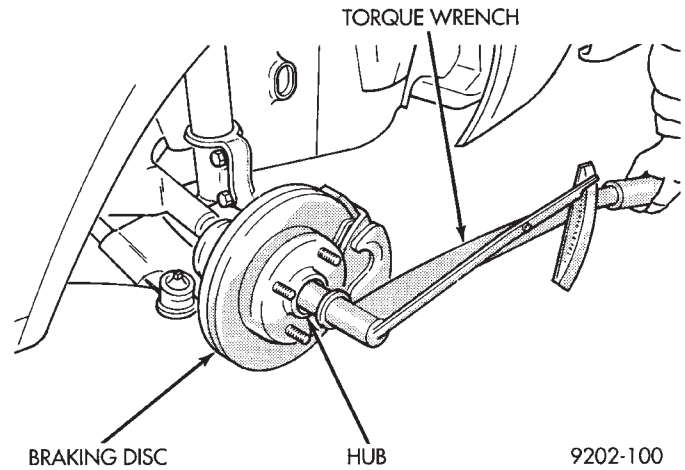

Fig. 28 Torquing Front Hub Nut
(12) With vehicle brakes applied to keep braking disc from turning, tighten hub nut to 244 N-m (180 ft. lbs.) of torque (Fig. 28).